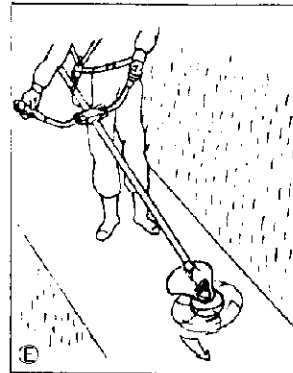

Fig. 9
1. Sweeping grass and other debris from a hard surface can be done very quickly. See Fig. 9